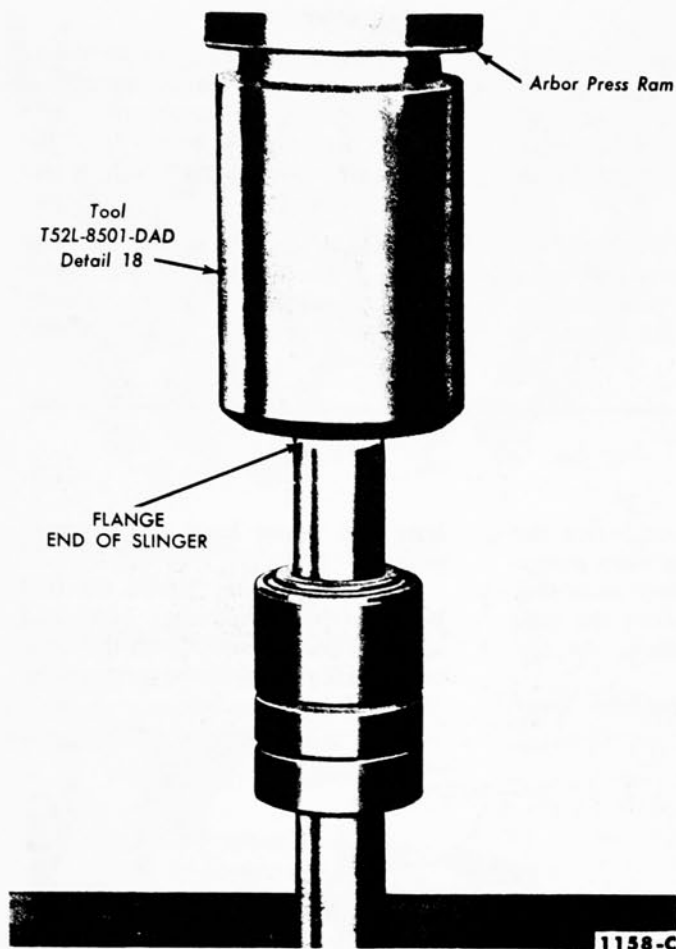

FIG. 8—Replacing Slinger
2. Install the new slinger on the new bearing and shaft assembly furnished in the repair kit (Fig. 8). Locate the slinger in the same relative position as the slinger on the old shaft.